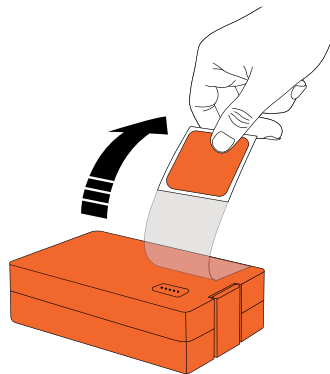

Figure 5. Removing the battery protection sticker
Note: For new batteries, remove the battery protection sticker before inserting the battery as shown in the Figure 5.
1. Attach the adhesive pad to the center of the patient's chest as shown in Figure 5.